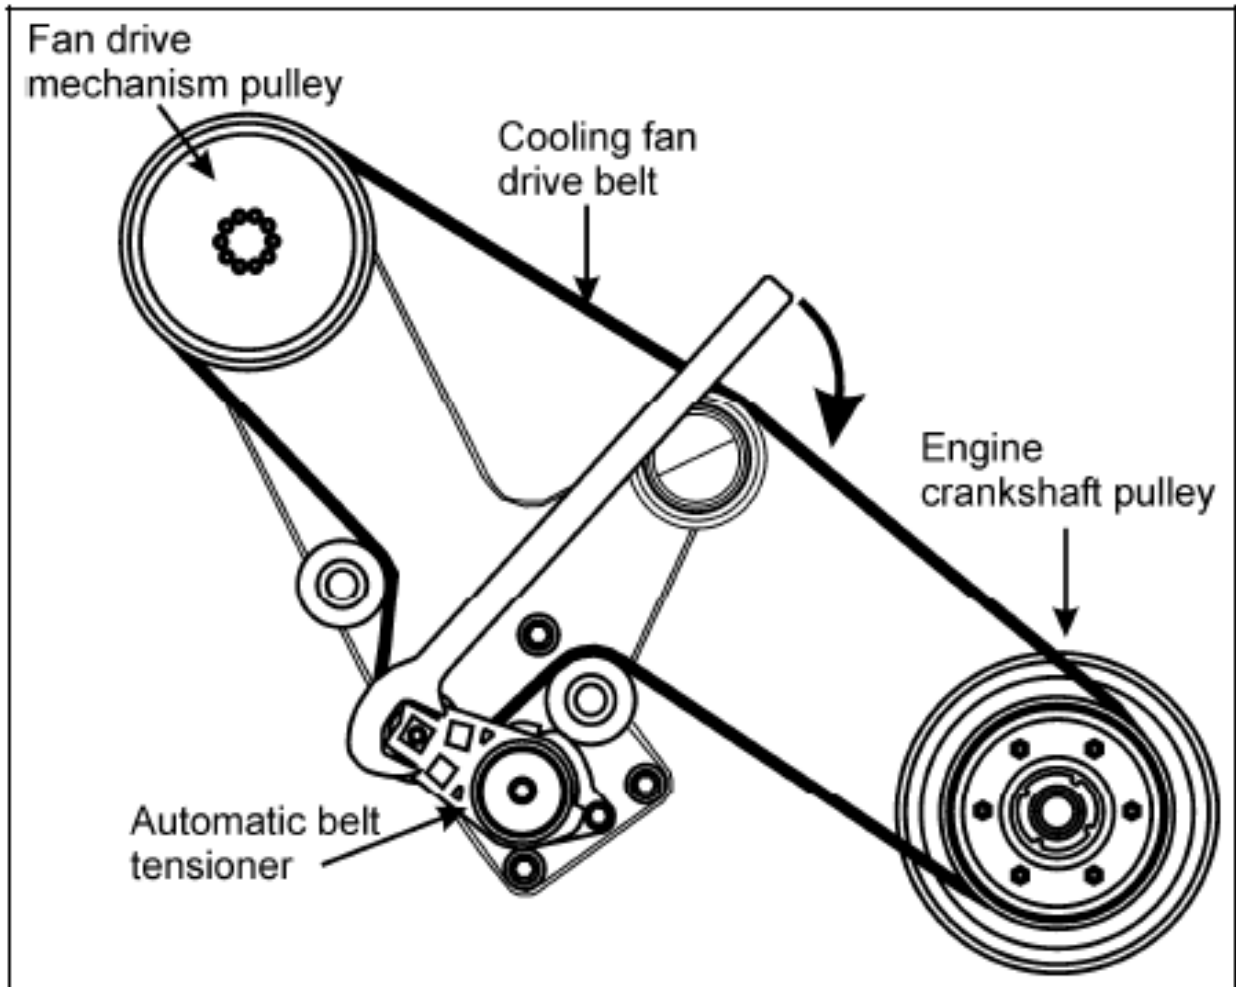

FIGURE 1: FAN BELT ROUTING (VOLVO D13 ENGINE)
1. Using the special tool included with your vehicle (see inside the Warning Reflectors box located in the first curb-side baggage bay), rotate the automatic tensioner in clockwise direction to relieve tension on the belt and hold the tensioner in that position (Fig.1).
3. Wrap the new drive belt around the fan drive mechanism pulley, the idlers and the automatic tensioner idler as shown on figure 1.